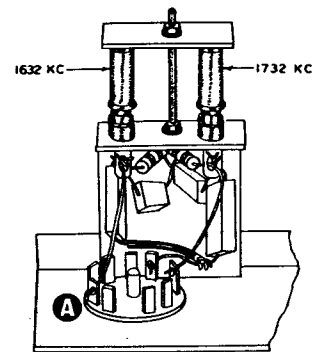

Figure 2A
- (✓) Slip a 3/4" length of insulated sleeving over the free lead of the left .001 mfd capacitor. See Figure 2A. Bend this lead at right angles and connect to the right .001 mfd capacitor (S). Cut off excess lead.
- (✓) Assemble the crystal mounting bracket to the 1682 KC sub-chassis with 3-48 screws, lockwashers and nuts. The bracket mounts behind socket A; be careful to avoid pinching the wires at this point. See Figure 2A.